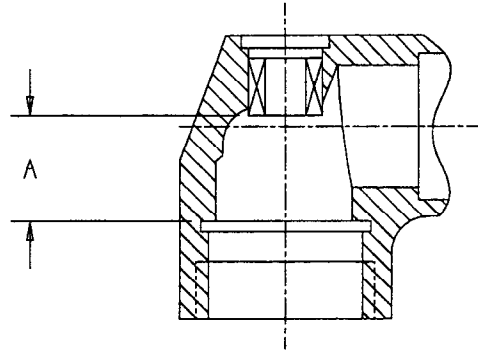

Figure 10 (Dwg. TPD636)
**For DAA3 Angle Attachments**, press a new Spindle Bearing into the Angle Head from the large threaded end to the dimension shown in Figure 10. Install a new Angle Housing Cap (103) into the top of the Angle Head.